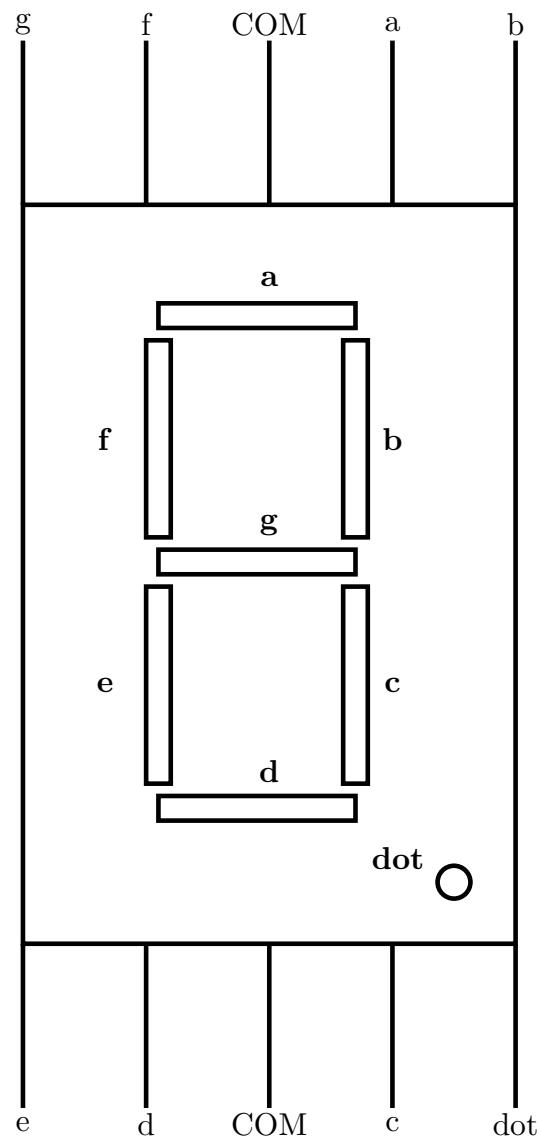
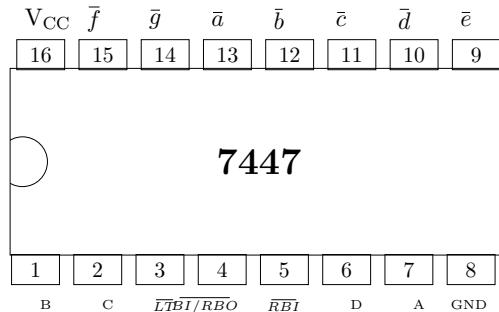

Figure 2.2: Seven Segment pins
Figure 3.1:
The seven segment display in Fig. 2.2 has eight pins, *a*, *b*, *c*, *d*, *e*, *f*, *g* and *dot* that take an active LOW input, i.e. the LED will glow only if the input is connected to ground. Each of these pins is connected to an LED segment. The *dot* pin is reserved for the · LED.
1. Make connections between the seven segment display in Fig. 2.2 and the 7447 IC in Fig. 3.1 as shown in Table 3.2